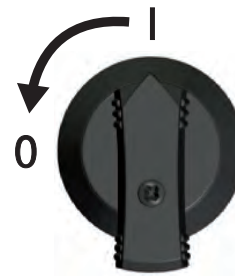

Figure 43
2. Set the DC circuit breaker on the inverter to position 0 (Figure 43).